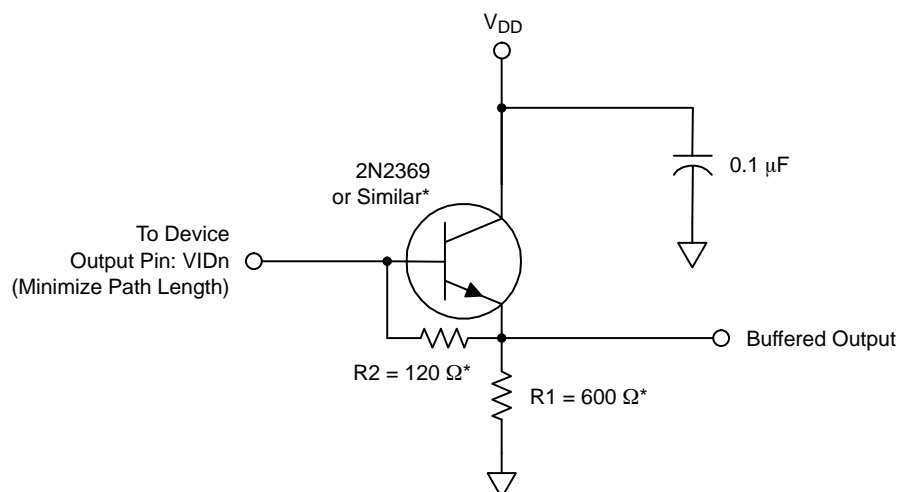

Figure 8. Typical Output Bias/Buffer Circuit
1. A current sink must be supplied for each output. Load capacitance should be minimized so as not to limit bandwidth. See Figure 8. Choose values optimized for specific operating frequency, but R2 should not be less than 75 Ω .